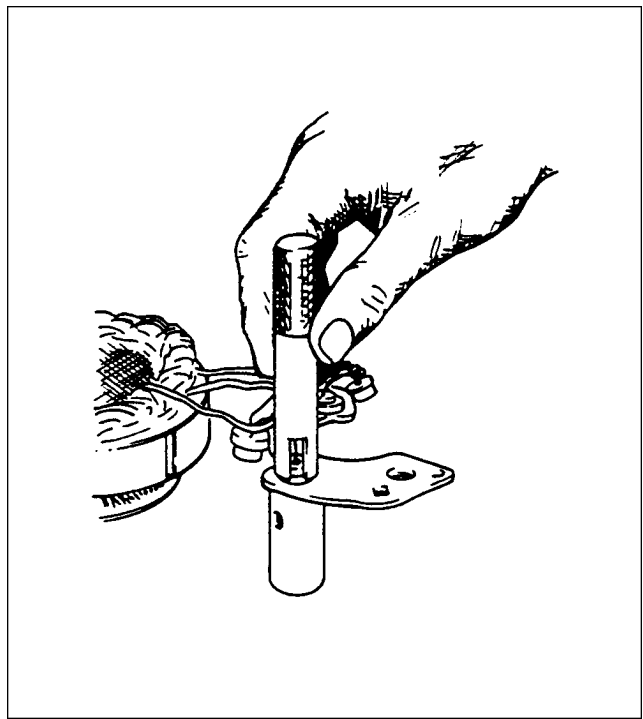

Figure 24-36. Installation of Rectifier
2. Carefully install rectifiers in slip ring end head or rectifier mounting plate by supporting unit and using special tools illustrated in figure 24-36.